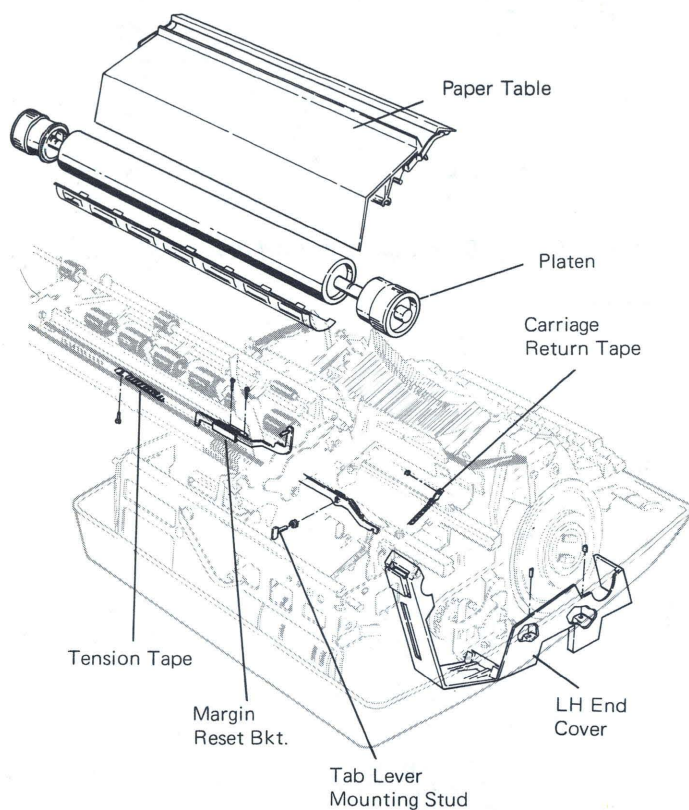

Figure 4 – Carriage Removal
1. Disconnect the carriage tension and carriage return tapes from the carriage. Connect both tapes to the railguards to prevent losing their adjustments (Figure 4).